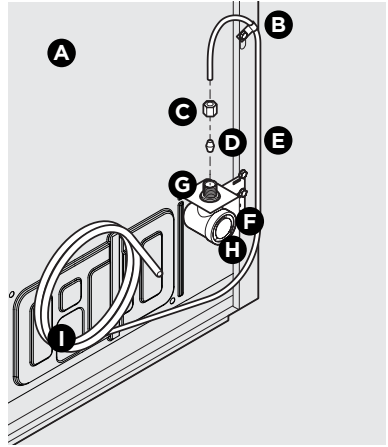
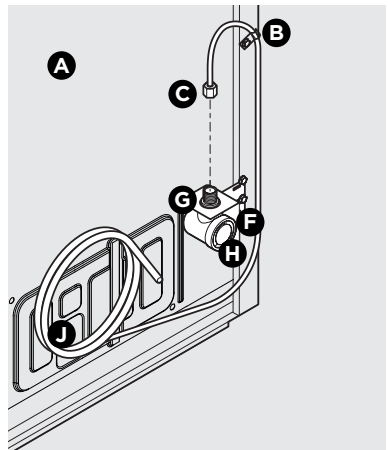

Figure 1
Figure 2
4. If you use **copper tubing** - Slide the brass compression nut and then the ferrule (sleeve) onto the water supply line. Push the water supply line into the water valve inlet as far as it will go ($\frac{1}{4}$ "/6,4 mm). Slide the ferrule (sleeve) into the valve inlet and finger tighten the compression nut onto the valve. Tighten another half turn with a wrench; DO NOT overtighten. See Figure 1.
If you use **braided flexible stainless steel tubing** - The nut is already assembled on the tubing. Slide the nut onto the valve inlet and finger tighten the nut onto the valve. Tighten another half turn with a wrench; DO NOT overtighten. See Figure 2.
| B | Steel Clamp (Fig. 1: $\frac{1}{4}$ "; Fig. 2: $\frac{1}{2}$ ") |